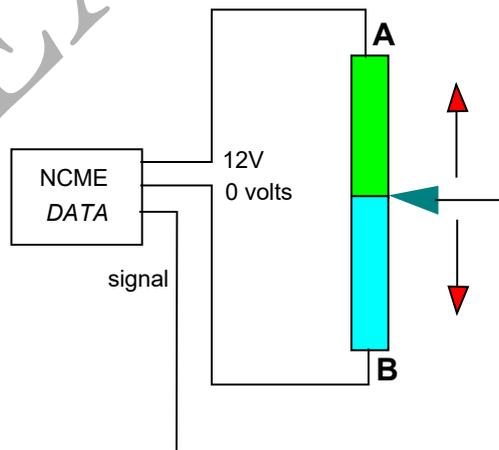

Figure Q6b
- (b) Figure Q6b shows a connection for a linear suspension potentiometer. The resistance across A and B is $1.8 \text{ k}\Omega$. The total movement for the potentiometer is 180mm.